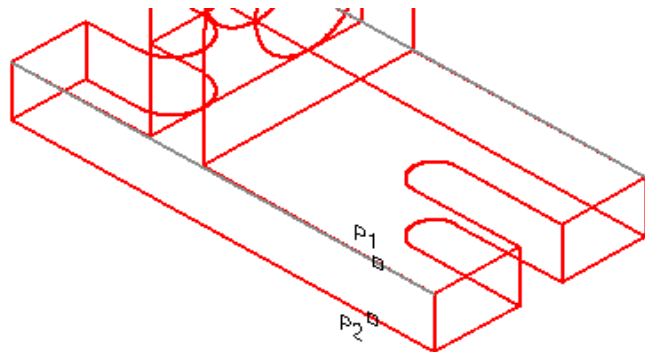

Figure Step 7A
Step 7 Set layer Surface as the current layer and enter the REVSURF command shown below. See Figure Step 7A and 7B.